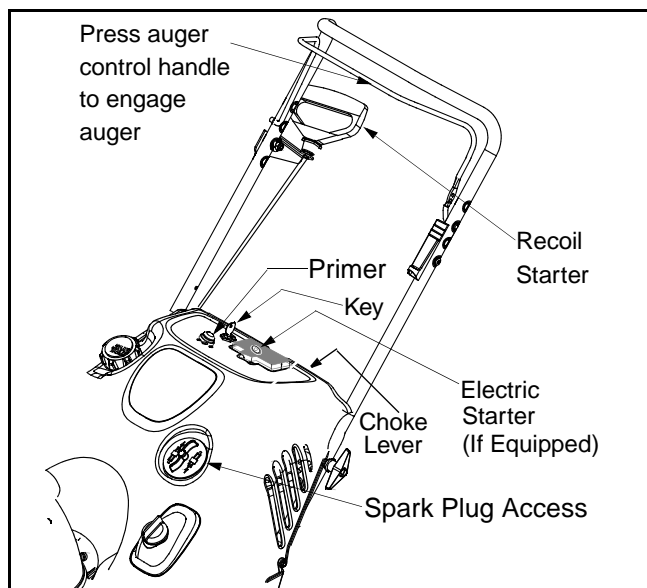

Figure 4
- Now follow the instructions below as it pertains to your unit. See Figure 4 for location of controls.